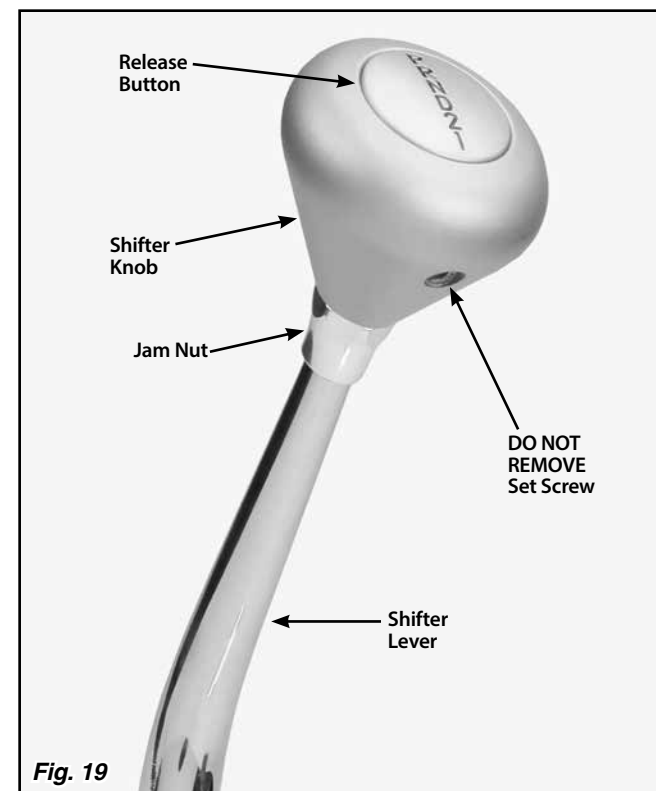

Fig. 19
Step 2: Loosen the jam nut below the shifter knob. **DO NOT** loosen or remove the set screw in the knob. **Fig. 19**